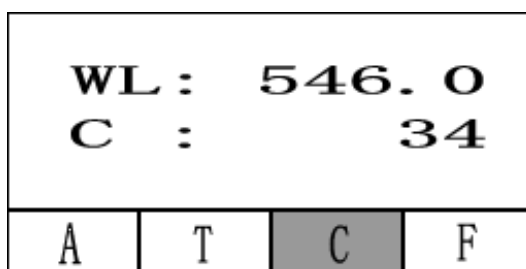

Fig. 4-8
Step 5, Put the "Sample" in the light path, read the Conc. value. (Fig. 4-8)